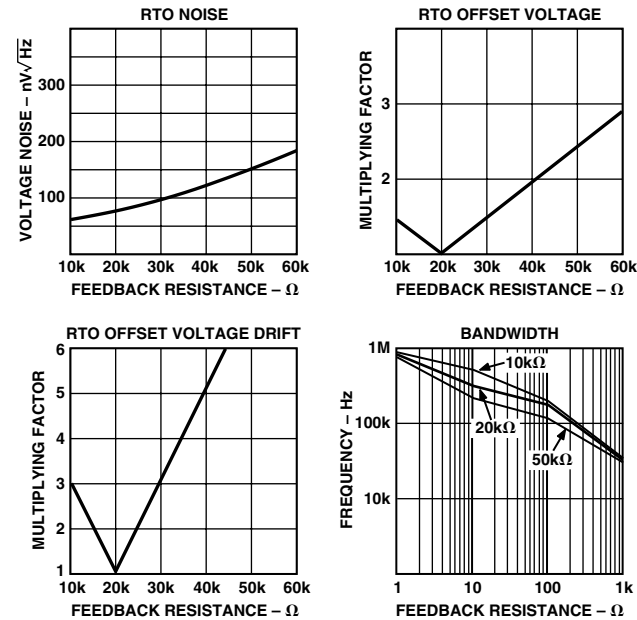

Figure 28. RTO Noise, Offset, Drift and Bandwidth vs. Feedback Resistance Normalized to 20 kΩ
As previously stated each RF provides feedback to the input stage and sets the unity gain transconductance. These feedback resistors are provided by the user. The AD625 is tested and specified with a value of 20 kΩ for RF. Since the magnitude of RTO errors increases with increasing feedback resistance, values much above 20 kΩ are not recommended (values below 10 kΩ for RF may lead to instability). Refer to the graph of RTO noise, offset, drift, and bandwidth (Figure 28) when selecting the feedback resistors. The gain resistor (RG) is determined by the formula RG = 2 RF/(G - 1).